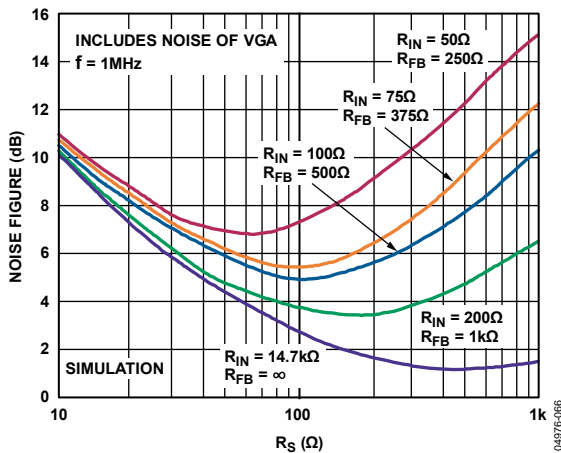

Figure 56. Simulated Noise Figure vs. R_s for Various Fixed Values of R_{IN} , Actively Matched
Figure 56 shows the simulated noise figure (NF) vs. source resistance, and various values of preamplifier R_{IN} from 50 Ω , to 14.7 k Ω , the value seen looking into the PIPx pins when $R_{FB} = \infty$. As shown in the figure, the minimum NF for $R_{IN} = 50 \Omega$ is slightly less than 7 dB. Note that, for this preamplifier, the NF is optimized for the R_{IN} from 50 Ω to 200 Ω ; for $R_{FB} = \infty$, the minimum NF is at approximately 480 Ω . This optimum noise resistance can also be calculated by dividing the input referred voltage noise by the current noise.